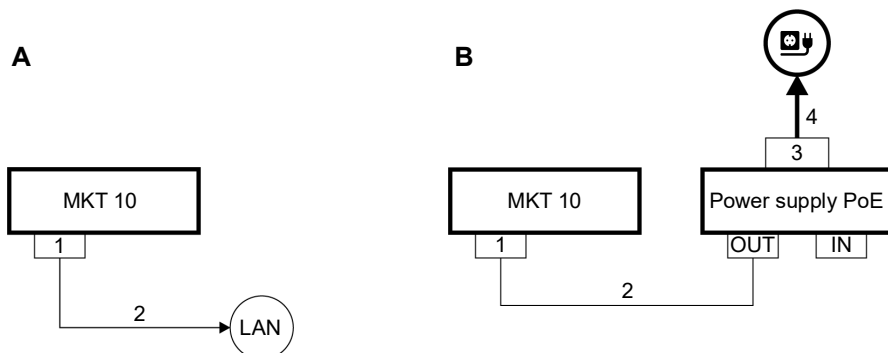

Fig. 4: **A:** PoE-powered operation | **B:** AC-powered operation (optional)
- Connect the Ethernet/PoE connector of MKT 10 to the LAN with an Ethernet cable, see fig. 4 A.
1. Connect the Ethernet/PoE connector of MKT 10 and the “OUT” connector of the power supply PoE with an Ethernet cable, see fig. 4 B.